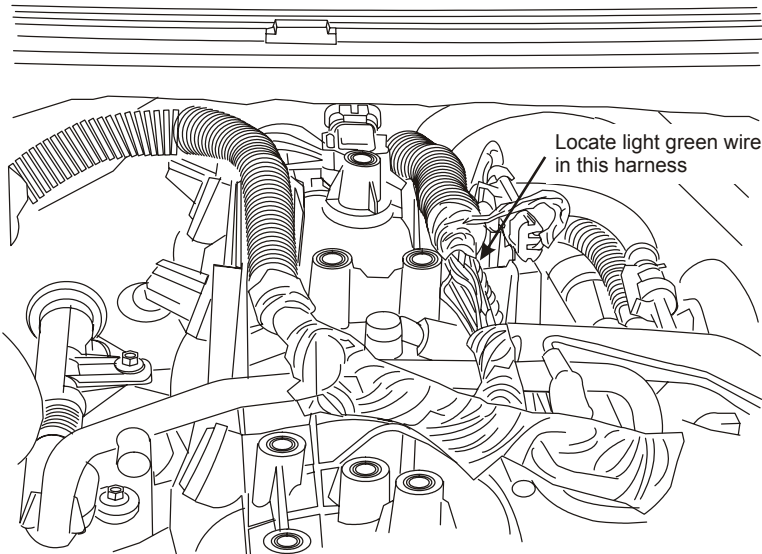

Figure 1
- Strip some of the tape from the wire harness that comes up the back of the engine and rests in the driver's side retaining trough on the manifold (Figure 1).